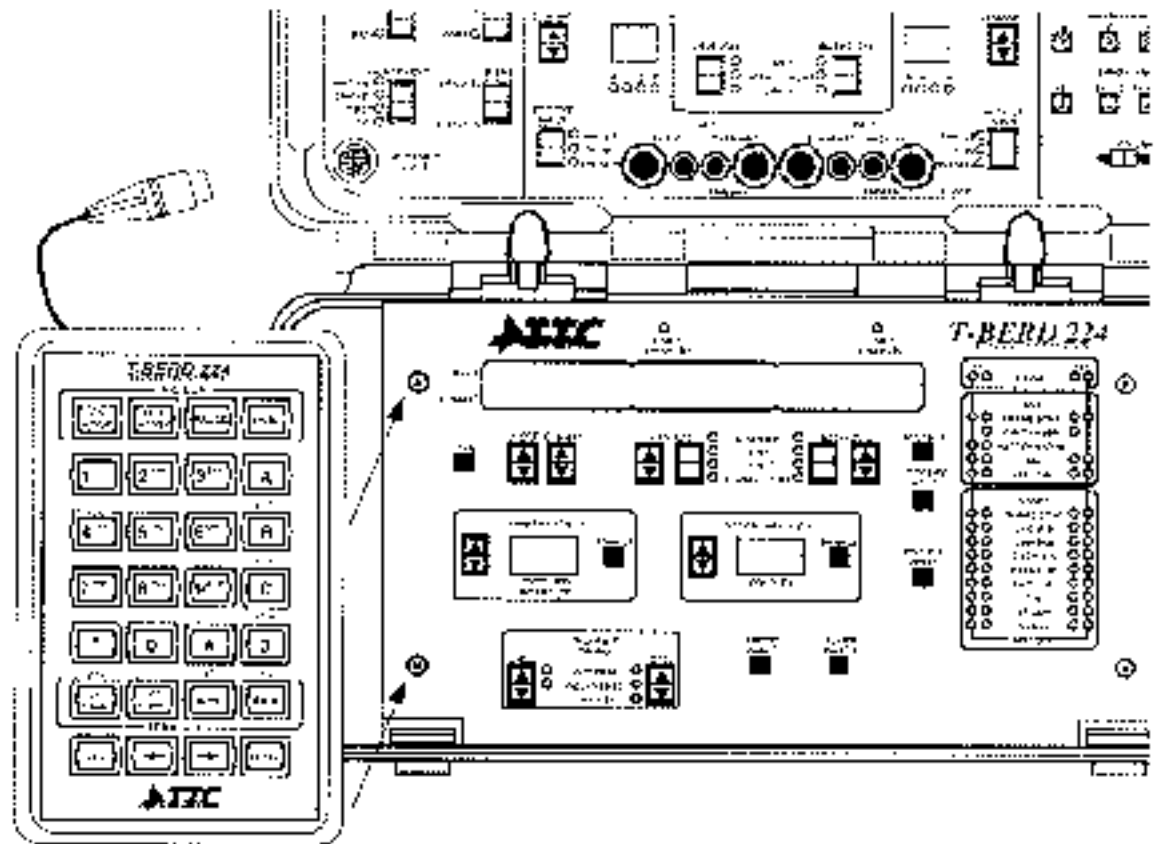

Figure 3-18. Installing Signaling Keypad
8. Slide Signaling Keypad onto left side of SONET/DSS Option Pd and plug cable into Auxiliary Port (see Figure 3-18).